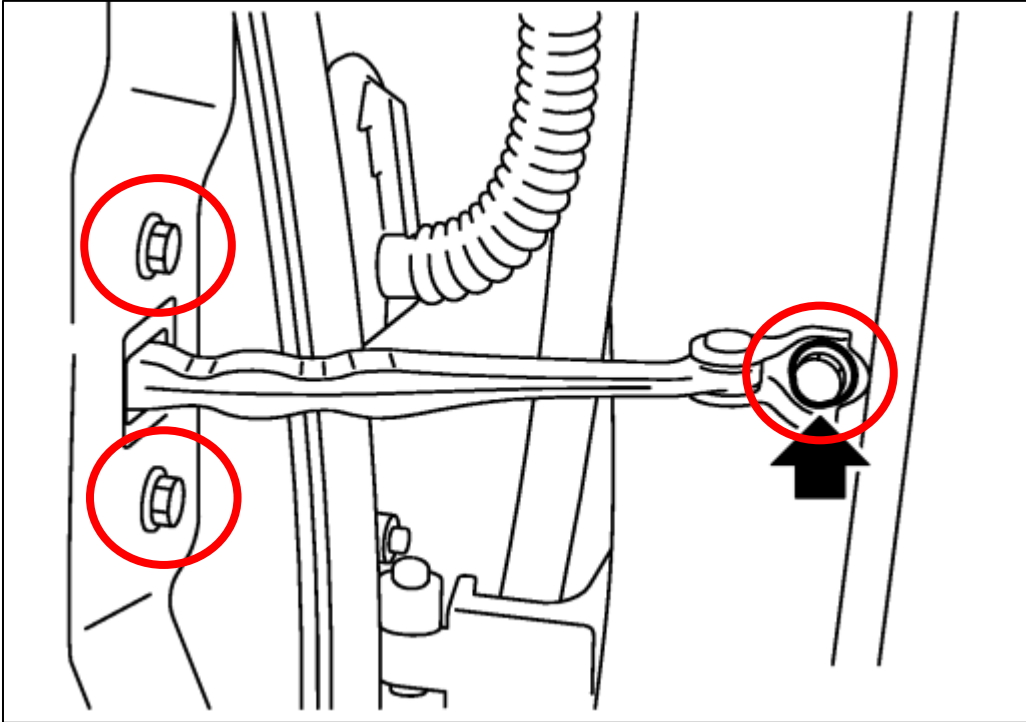

Figure 63
11. Open the door as wide as you can. Disconnect the (3) three 10mm Bolts that secure the Check Link to the vehicle. *Figure 63.*